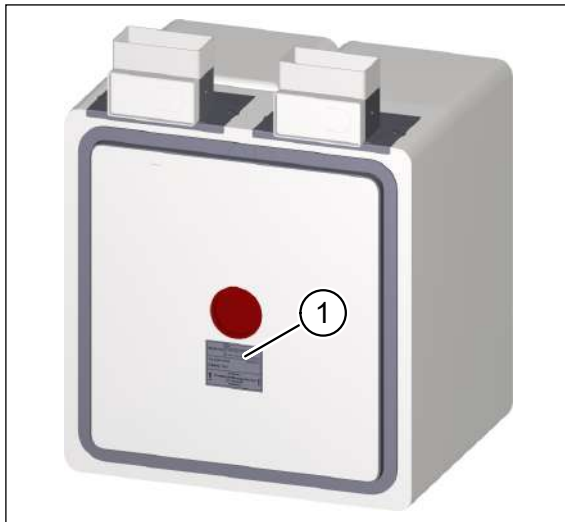

Fig. 3: Nameplate on the plaster cover
- on the plaster cover (item 1 in Fig. 3)